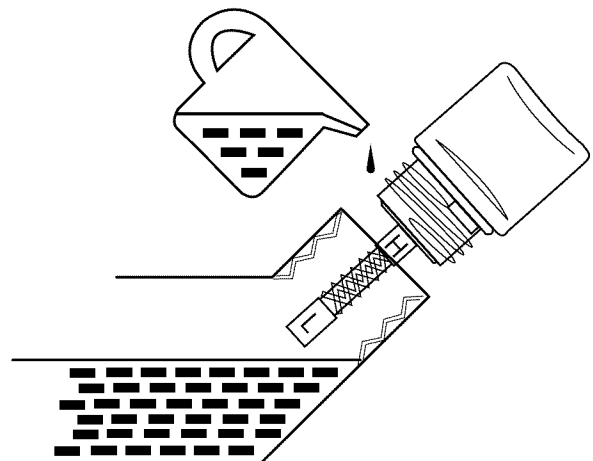

Figure 32 – Checking Oil Level
- Acceptable Oil Level – Oil is visible on the cross-hatches between the H and L lines on the oil fill plug/dipstick (*see Figure 32*).